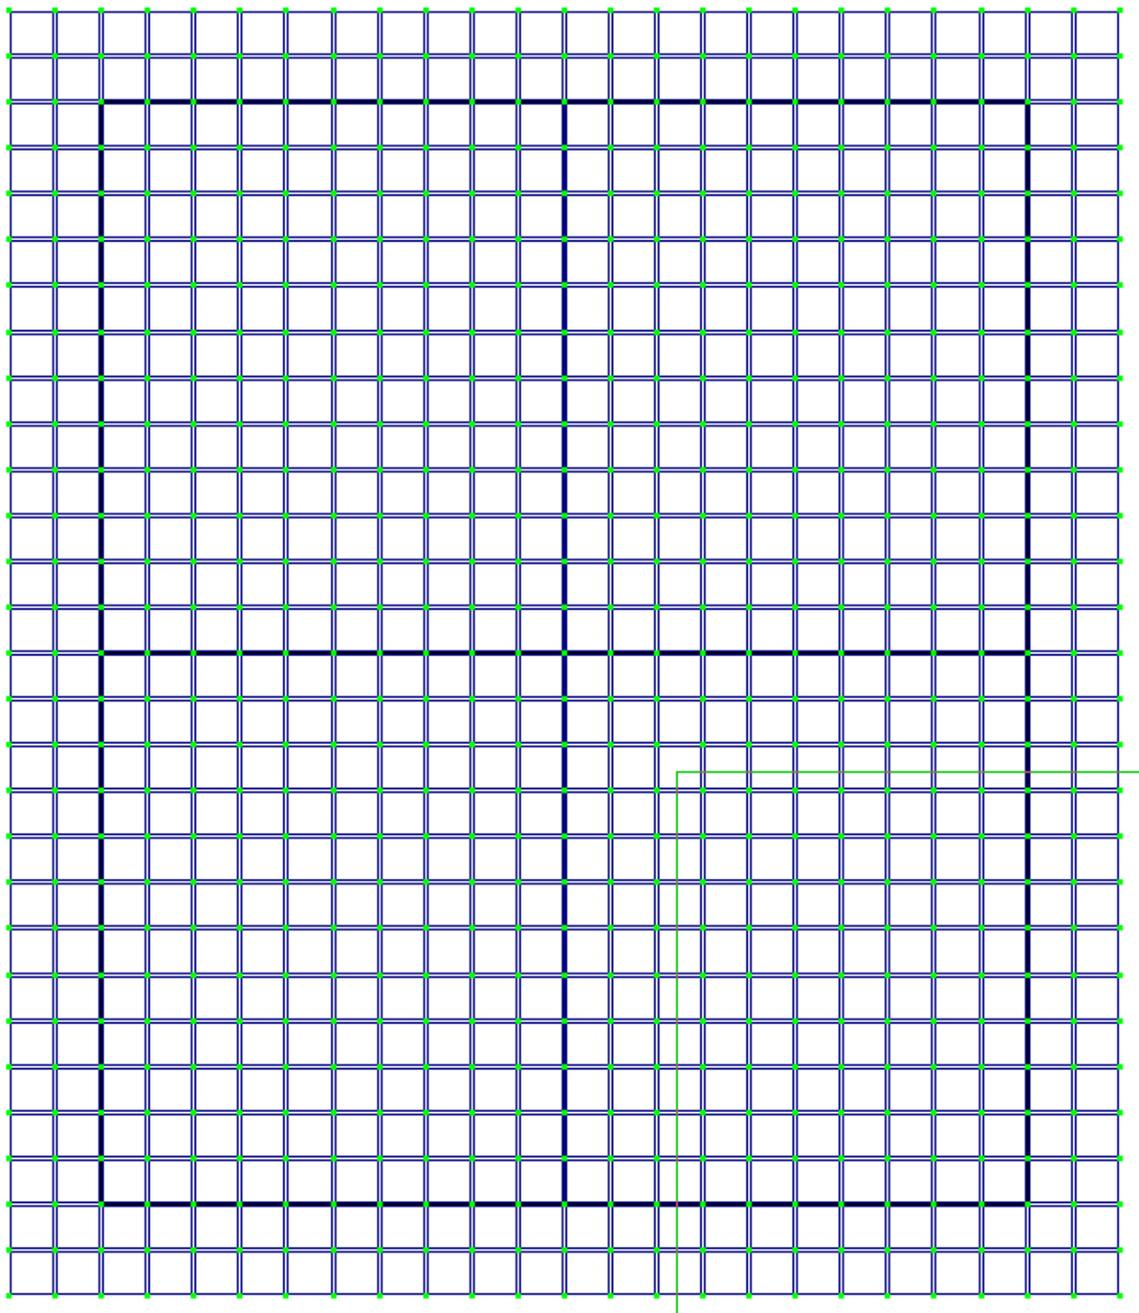

Figure 11.6 Select nodes of slabs
- ⇒ On the **Select** toolbar, point to **Select nodes** drop-down list and click **Select nodes** button . With selection window select nodes of slabs in the first right span of the model, as shown in Fig.11.6.